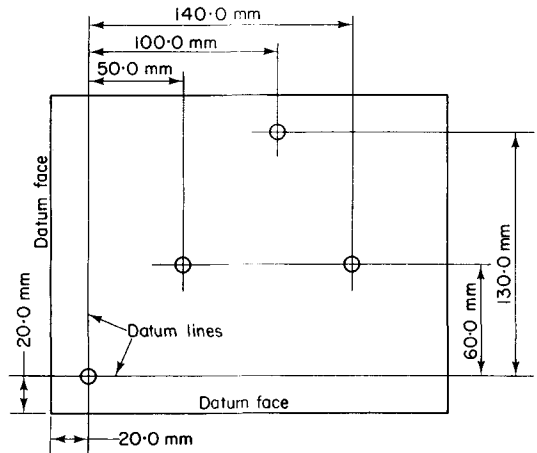

Fig. 3.96 Use of datum lines
**Datum lines.** When dimensions are used to position holes, the dimensions are frequently given from datum lines (Fig. 3.96). These datum lines must be used when marking out the hole positions.